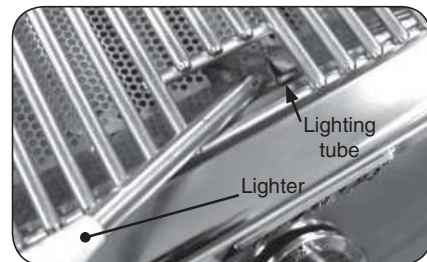

Fig. 15-2 - Manual lighting
2. Insert either a burning long-barrel butane lighter or a burning long-stem match through the cooking grid opening to the top of the lighting tube. (Fig. 15-2). For backburners, hold the flame against the surface of the backburner. For charcoal burners, hold the flame near the burner.
4. If the burner does not light, **immediately depress the knob and turn the valve to OFF**. **WAIT FIVE (5) MINUTES** before repeating steps 2 through 4 of the **MANUAL LIGHTING** instructions.